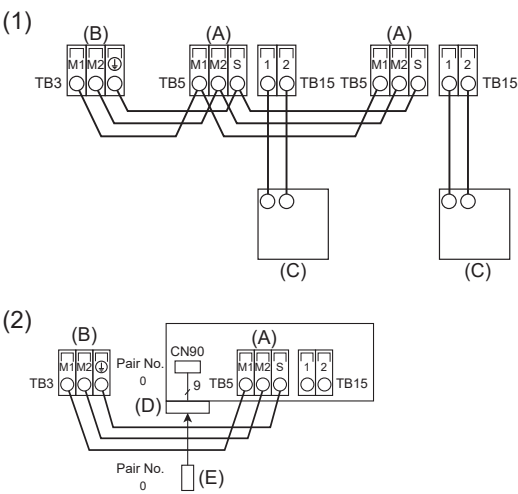

Fig. 6-5
6.3. Connecting remote controller, indoor and outdoor transmission cables (Fig. 6-5)